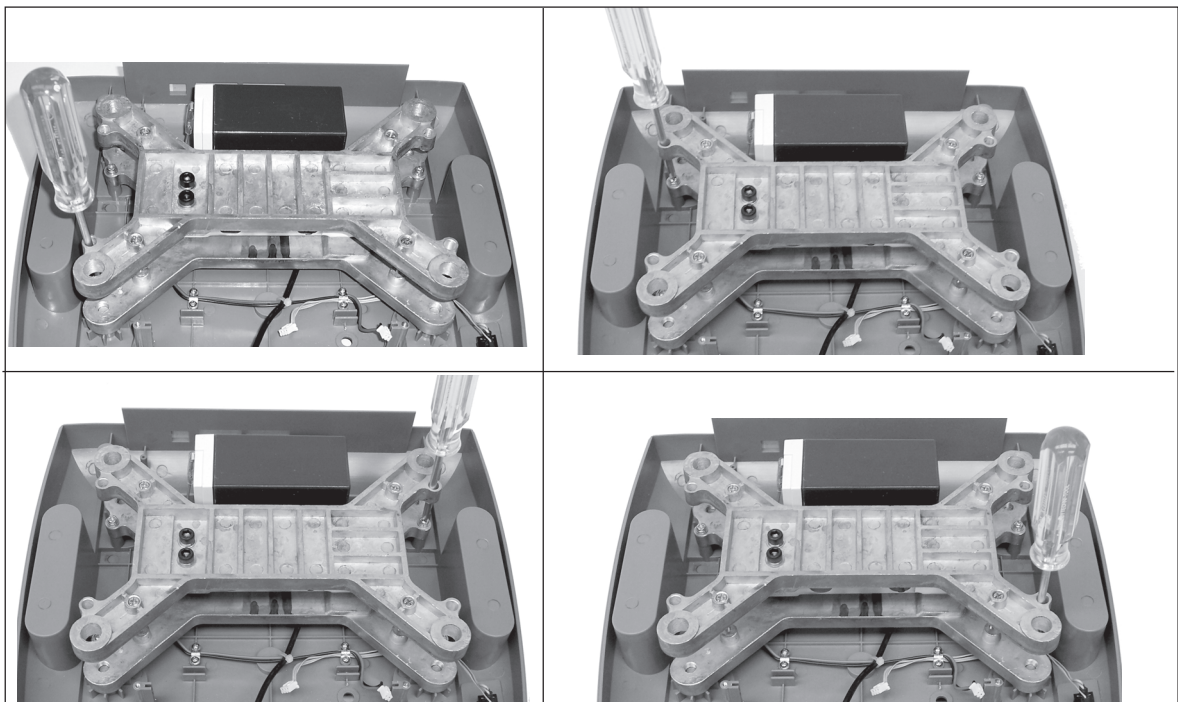

Figure 4-14. Load Cell Retaining Screw Locations.
4. Remove the four screws holding the Load Cell Assembly to the bottom housing. See Figure 4-14 for screw locations.